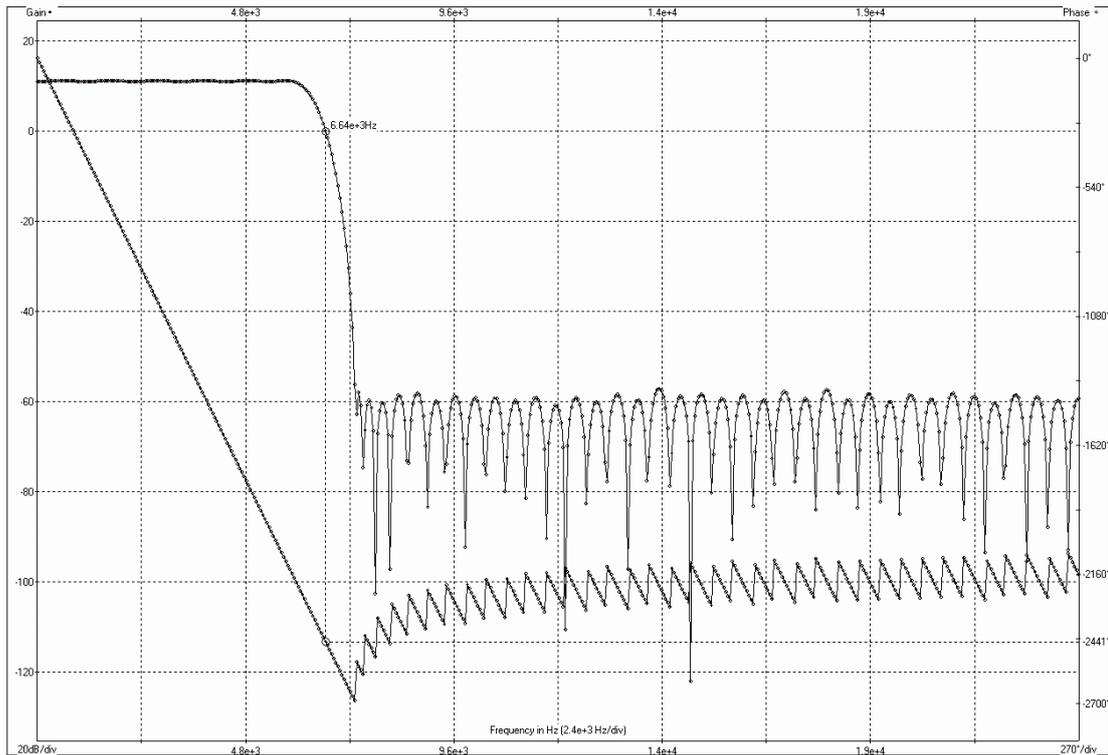

Figure 15 IQ Filter response in 25kHz operation.
13. Adjacent channel filtering is the ability of the CMX910 filters to reject adjacent channel energy and note that it does not correspond directly to the 'Adjacent Channel Selectivity' as defined by IEC61993-2 (or IEC 62287). The filter characteristic in each of the I and Q paths for 25kHz mode operation is shown in Figure 15. Note that the pass-band has a gain of +10dB and stop band is -60dB so the typical rejection is +10 – (-60) = 70dB.